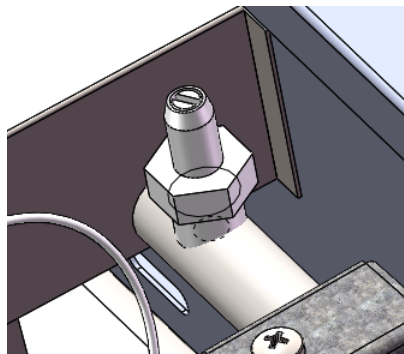

Fig.1
14. Turn over gas griddle , and needle type pressure joint screw arbor (Fig.1), then slip rubber tube of pressure gauge over needle type pressure joint;